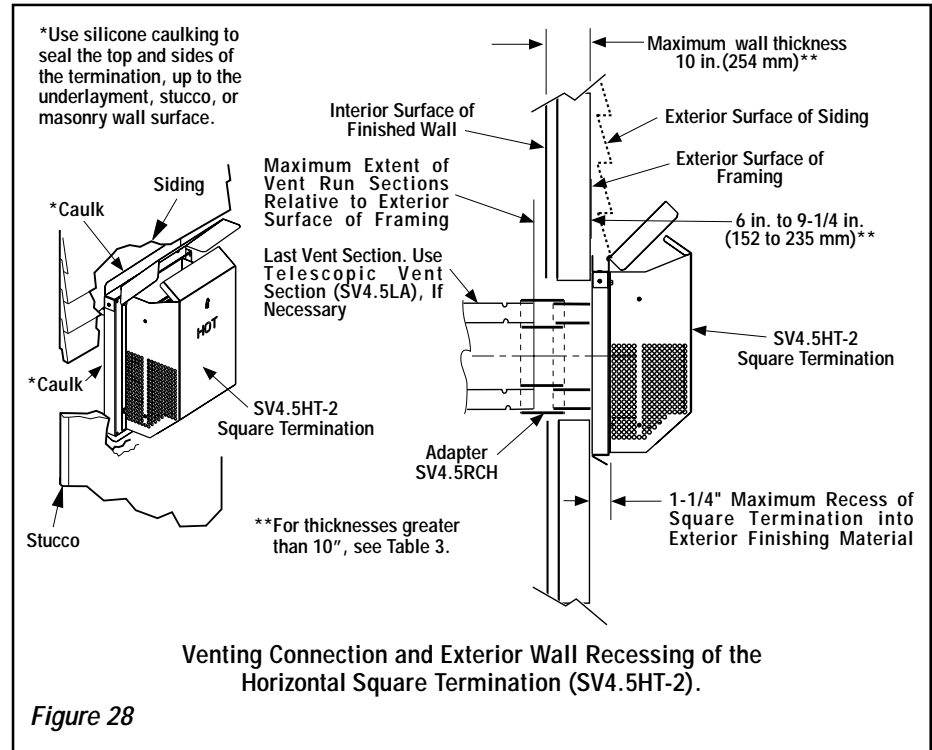

Figure 28
L. Assemble vent run to exterior wall - If not previously measured, locate the center of the vent at the exterior wall. Prepare an opening as described in **Step D**. Assemble the vent system to point where the terminus of the last section is within 7 in. (178 mm) to 11-1/4 in. (286 mm) inboard of the exterior surface to which the SV4.5 HT-2 termination is to be attached, see *Figure 28*.
If the terminus of the last section is not within this distance, use the **telescopic vent section SV4.5LA**, as the last vent section. For wall thicknesses greater than that shown in **Figure 28**, refer to **Table 3 on page 18**. This table lists the additional venting components needed (in addition to the termination and adapter) for a particular range of wall thicknesses.
1. Install the square termination (SV4.5HT-2) - For the last step, from outside the exterior wall, slide the collars of the termination onto the adapter (the outer over the outer and the inner inside the inner) until the termination seats against the exterior wall surface to which it will be attached. Orient the housing of the termination with the arrow pointed upwards. Secure the termination to the exterior wall. **The horizontal termination must not be recessed into the exterior wall or siding** by more than the 1-1/4" (32 mm) as shown in **Figure 28**.